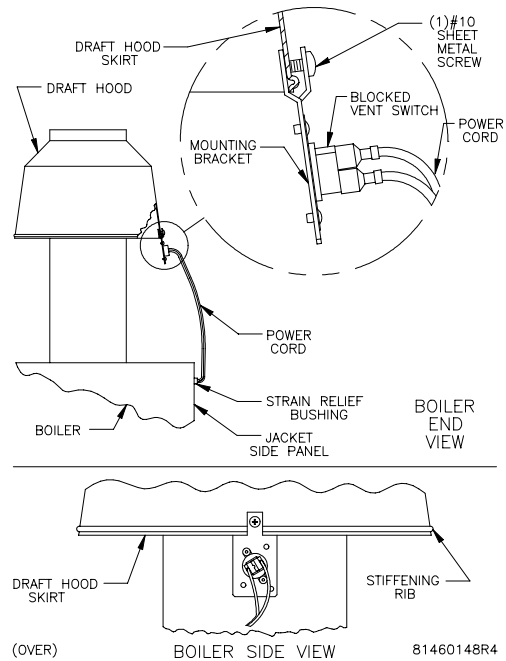

Figure 6
H. Be sure the power cord, mounting bracket, and switch are secure and located as shown in Figure 6.